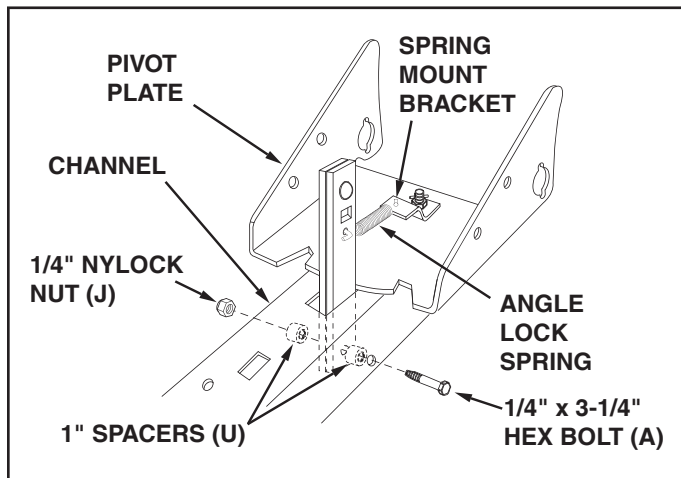

FIGURE 12 (Right Hand Side View)
STEP 12: (SEE FIGURE 12)
- Insert the angle lock bars down through the slot in the channel. Underneath the channel, place a 1" long spacer (U) on each side of the angle lock bars and insert a 1/4" x 3-1/4" bolt (A) through the channel, angle lock bars and the spacers. Secure the bolt with a 1/4" nylock nut (J). **Tighten** so that lock bars can pivot freely.